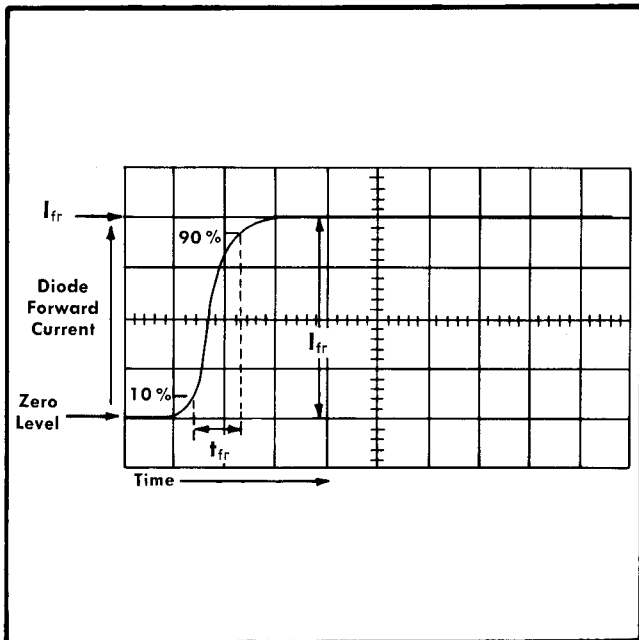

Fig. 3-1. Diode forward recovery switching display.
Diode Switching Terms (See Figs. 3-1 and 3-2.)
6. Turn the pulse generator on, and set the oscilloscope triggering controls for a display similar to that shown in Fig. 3-1. Use this display to measure the forward-recovery switching characteristics of diodes when the forward switching voltage is known. Proceed to step 7 if I_{fr} is known.
7. Set the pulse generator output for the known I_{fr} indication on the display (see Fig. 3-1). Use this display to measure the forward-recovery switching characteristics of diodes when I_{fr} is known.